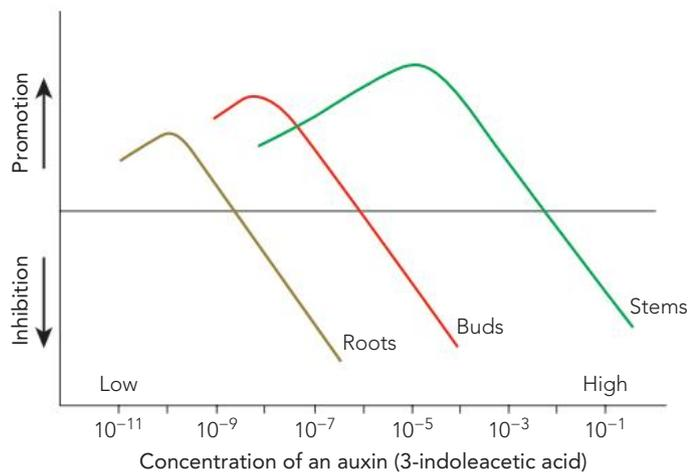

Figure 19.6 Response of roots, buds and stems to change in concentration of an auxin
- **Auxins** are produced in young leaves, germinating seeds, meristematic tissue (all buds, root tips and cambium), and developing flowers and fruits. They cause cell elongation, secondary thickening of stems and roots, fruit development and dominance of the apical (terminal) bud. The response of roots, buds and stems to one auxin is shown in Figure 19.6.